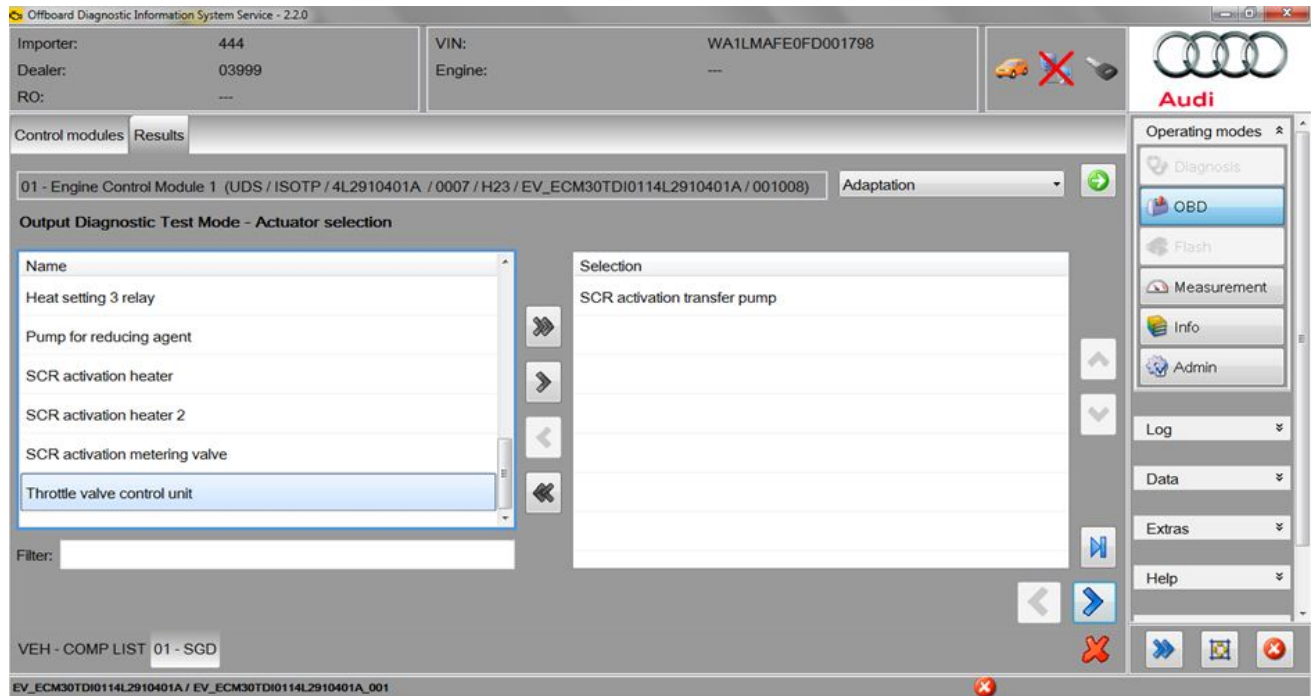

Figure 2. Output test of SCR transfer pump in ODIS for UDS vehicles
1. Locate the output test in ODIS under *OBD >> 01 Engine Control Module 1 >> Output Diagnostic Test Mode >> Actuator selection >> SCR activation transfer pump* (Figure 2).